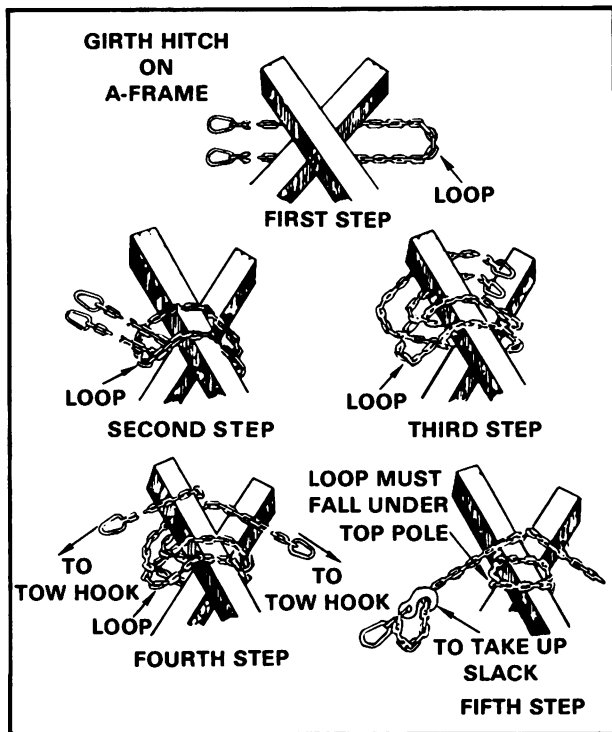

Figure 6. Tying girth hitch to A-frame.
c. Use of an A-Frame. Frequently, a truck will become nosed in a shell hole or narrow ditch. When a truck becomes disabled in this manner, both lifting and pulling forces are required to make the recovery. The lifting force can be obtained from an A-frame. To construct an A-frame, two poles approximately 8 feet long and large enough in diameter to support the front end of the truck will be needed. The poles should be lashed together at the top by a figure 8 or girth hitch (figure 6). The lower end of the poles should be placed in the ground 10 to 12 inches deep to prevent them from sliding when power is applied. The upper end of the A-frame is laid across the hood of the vehicle and the attachment made as in figure 7. If the nose truck is equipped with a winch, the winch cable should be rigged for a 2 to 1 mechanical advantage, with the end of the cable secured to the apex of the A-frame.